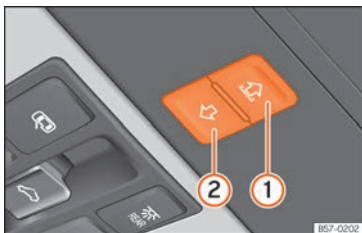

Fig. 129 On the interior roof lining: switches for the sun blind.
Buttons **» Fig. 129 1** and **2** have two levels. The first level opens or closes the sun blind fully or partially.
- *Sun blind*: within approximately 5 seconds of having activated the anti-trap function, press button »» Fig. 129 (2) until the sun blind closes completely.